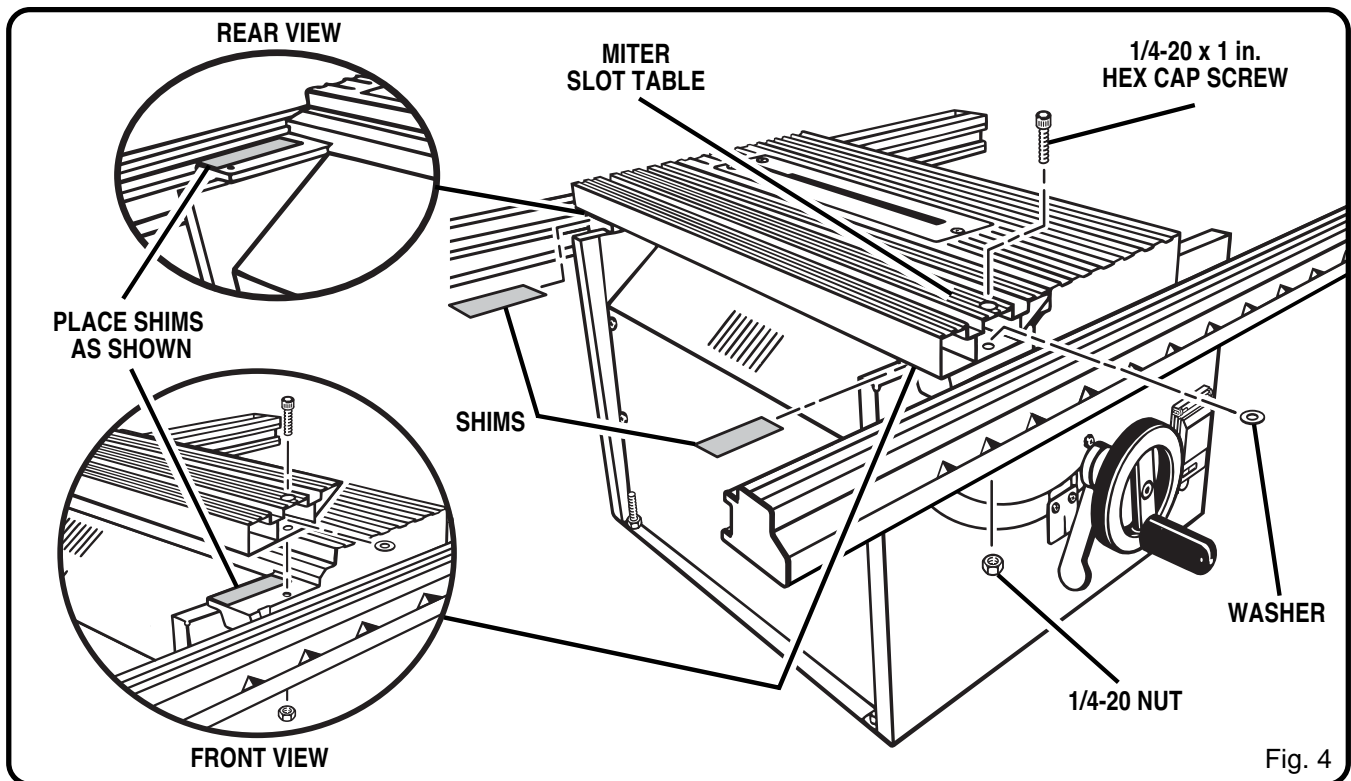

Fig. 4
See Figure 4.
- Place the miter slot table on the saw as shown in Figure 4.